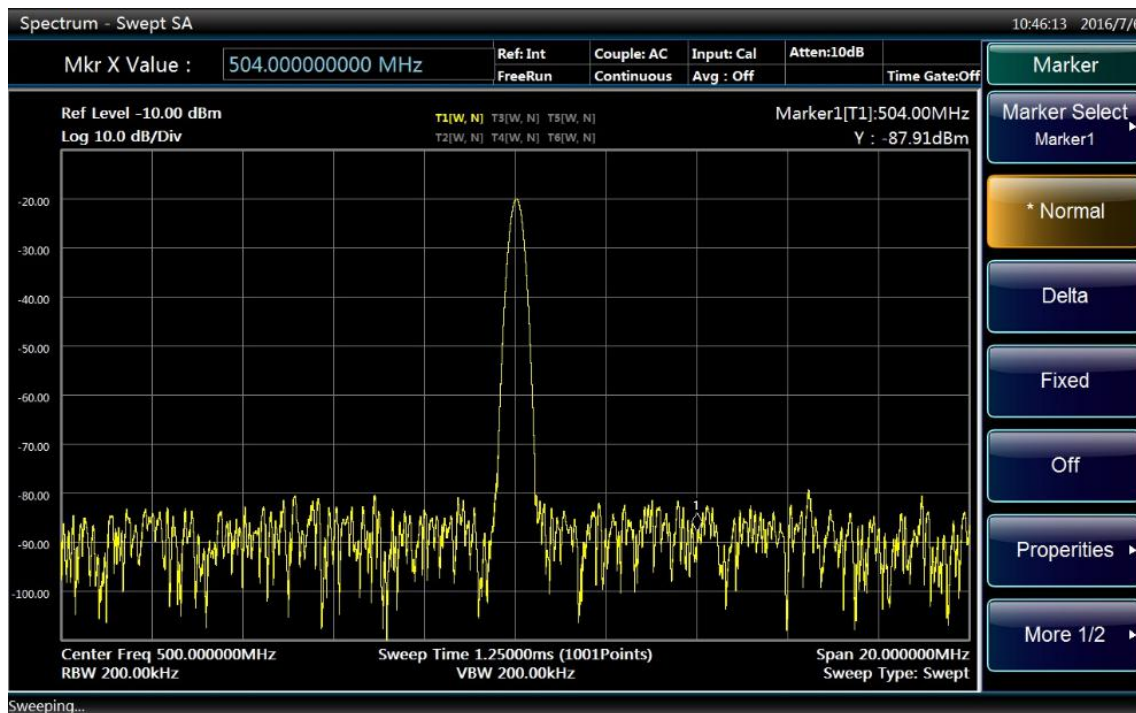

Fig. 3.20 Marker moving interface
- Click and drag the marker with the mouse or use the knob or the arrow keys to move the marker to other places. Current position of the marker is indicated with a white diamond box as shown in Fig. 3.20.